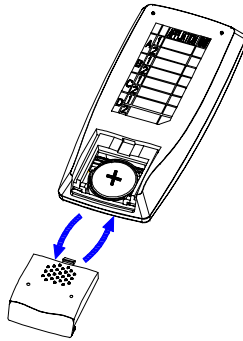

Fig. 1
- (1) Remove the battery cover. Fit the 3V Lithium battery in the compartment provided with +v terminal facing upwardly. (Fig. 1)